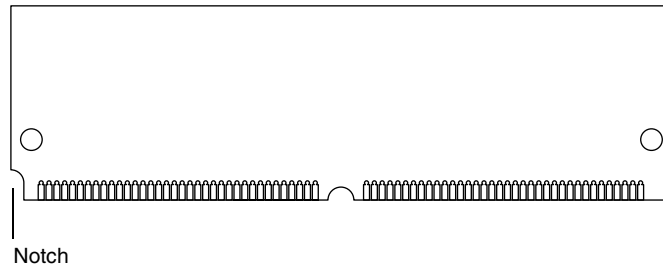

Figure 5-6 Notch in SIMM
1. Hold the SIMM by its edges. Orient the SIMM so that the notch is facing the front left of the unit. See Figure 5-6.